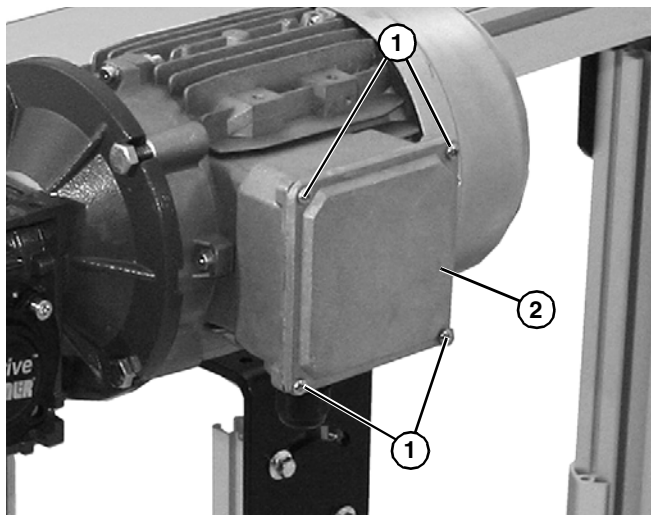

Figure 18
- a. Loosen terminal box screws (**Figure 18, item 1**) and remove cover (**Figure 18, item 2**).